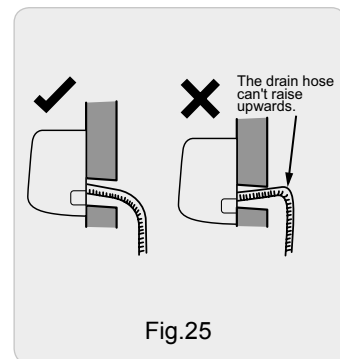

Fig.25
- The through-wall height of drain hose shouldnt be higher than the outlet pipe hole of indoor unit.(As show in Fig.25)